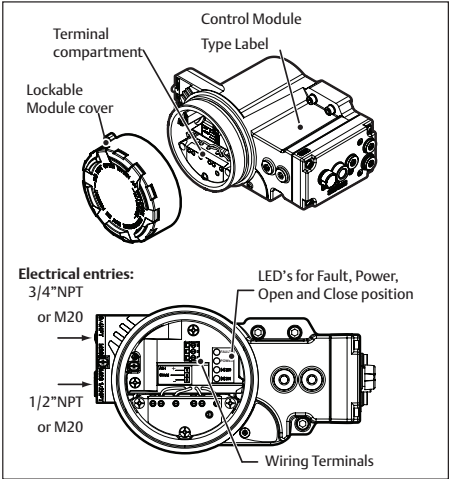

Fig. 4.2 Terminal connections behind cover.
- 1 Remove Control Module cover (see figure 4.2).
- 4 Mount the function module cover to the housing (see figure 4.2) or continue with chapter 5. Take care that the cover seal is in place to comply to dust and water tightness according to IP66 / NEMA4X.